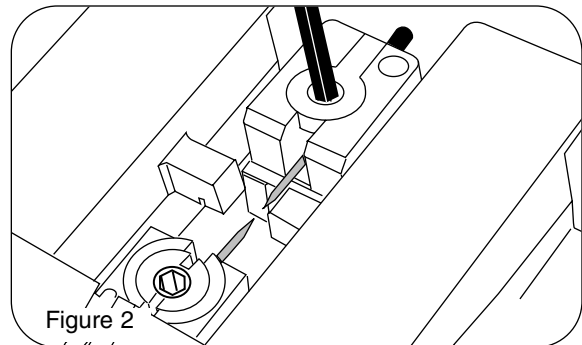

Figure 2
2. Use the electrode hex wrench to loosen the set screws that secure the electrodes by approximately one revolution each (Figure 2).